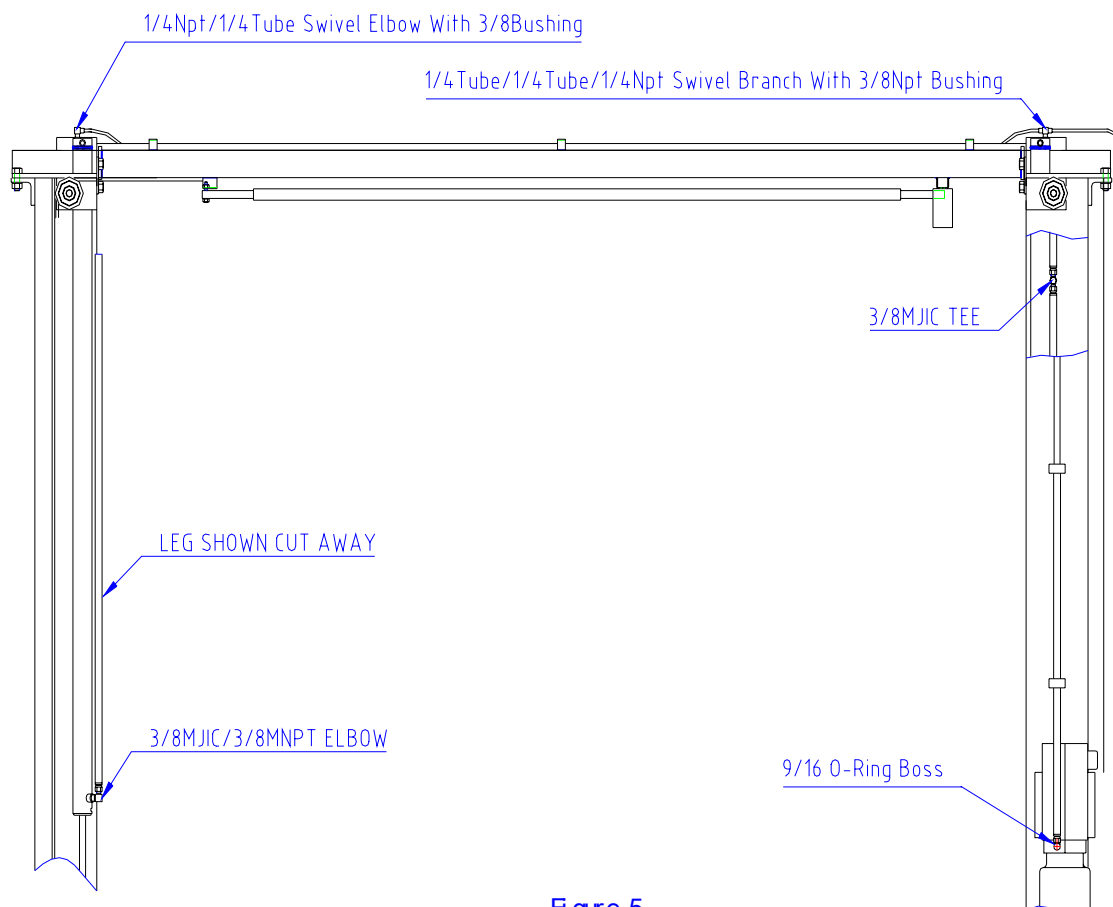

Figure 5
- 12. Hydraulic system, figure 5.**